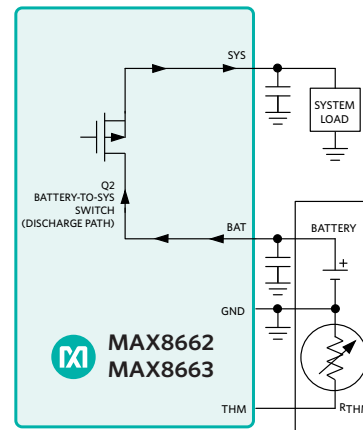

Figure 9. Power Path With Battery, But No External Supply
2. When the battery is connected and there is no external power input, the system is powered from the battery (*Figure 9*).